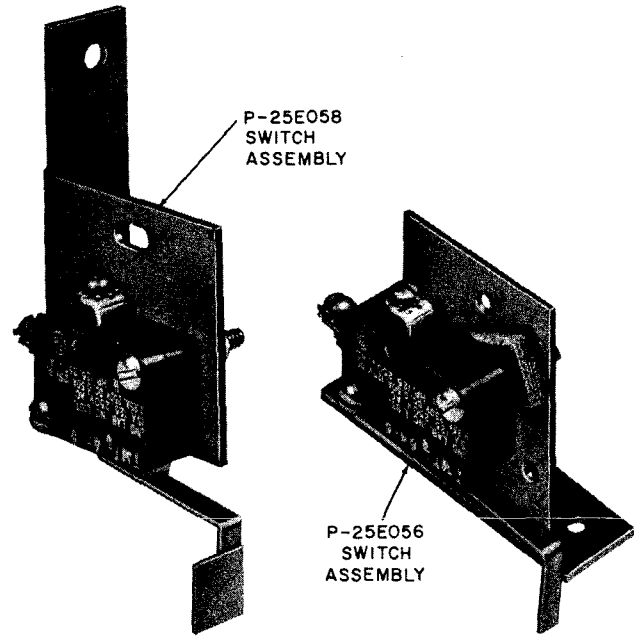

Fig. 6—1A Switch Kit
2.14 The 1A switch kit (Fig. 6) consists of two microswitches, assembled with associated brackets, actuators, and screws.